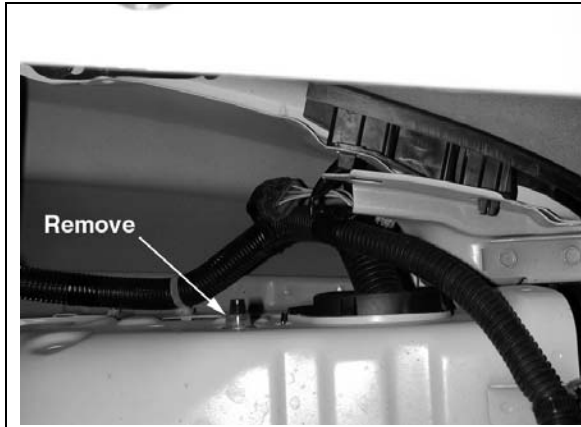

Fig. 9
- e) In the bumper cavity, locate the nut holding the ABS unit to the fender well and remove it. **(Fig. 9)**